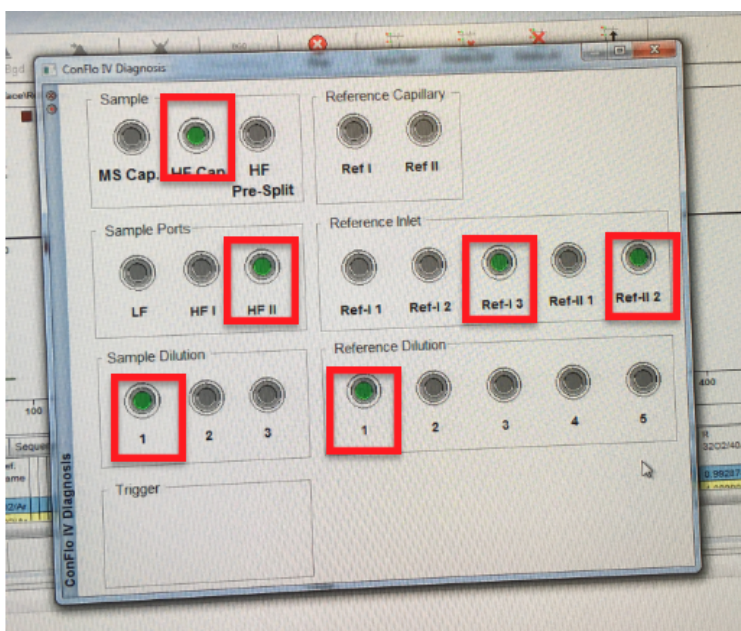

Figure 2: Reference gas configuration for standard exetainer analysis.
4. Expand the ConFlo IV Diagnosis window on the left side of IsoDat Acquisition. Confirm that reference gas configuration matches the picture below (Figure 2).